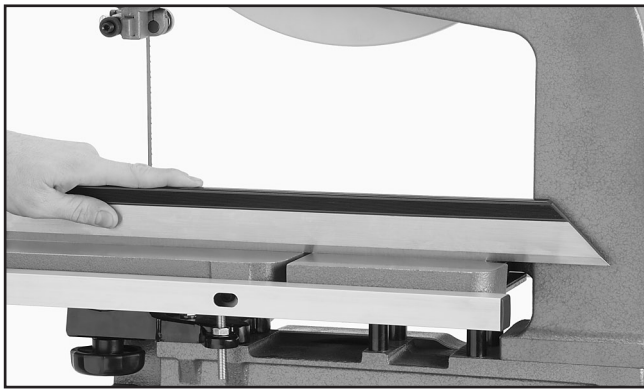

Figure 26. Leveling extension table with straightedge.
2. Place a straightedge across the front of the main table and extension table as shown in **Figure 26**.